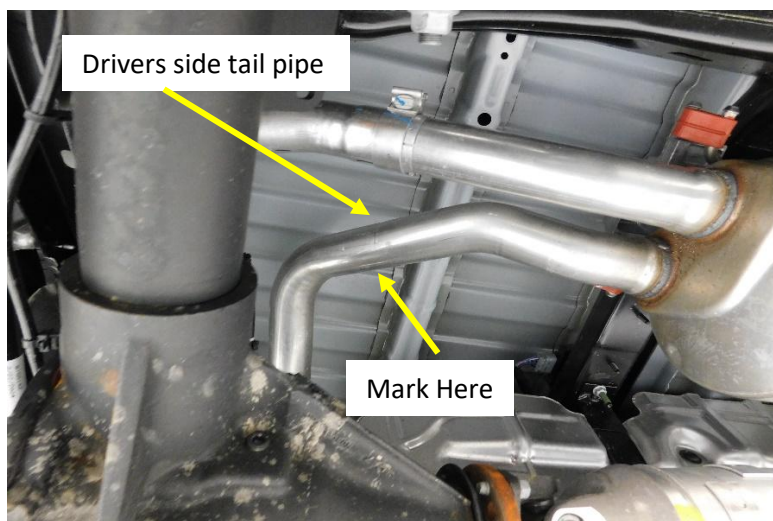
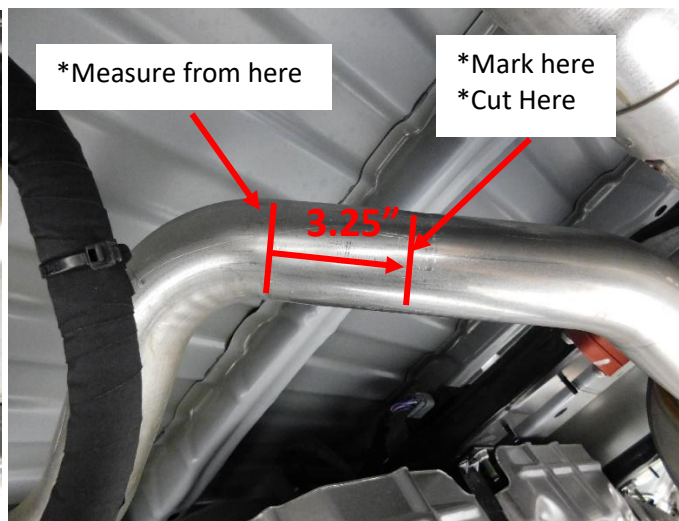

Figure. 1
Figure.2
3. Cut the left (Drivers Side) tail pipe at the location in **Fig. 1/ Fig. 2**
- Measure from the clamp mark closest to the bend on the tailpipe and make a witness mark at 3 1/4" **Fig.2**